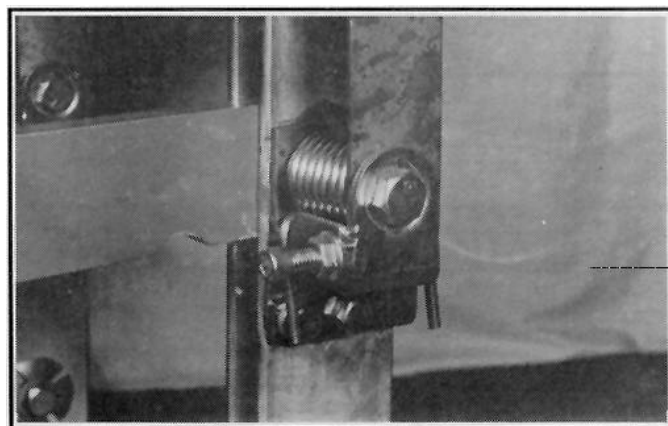

Figure 9
* Any corrections in the arcing blade position necessary (after all previous steps have been completed) may be done by loosening the locknut on the arcing blade adjusting screw - see Figure 9 - and turning screw either in or out to obtain positioning of arcing blade. Re-tighten locknut.